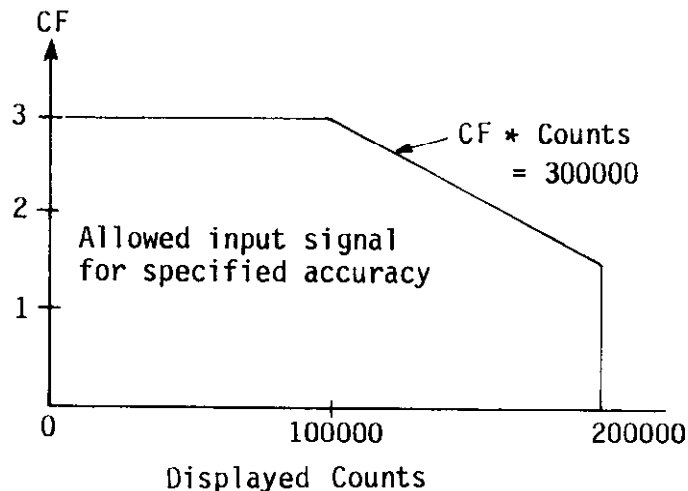

Figure 2-1. Crest Factor vs. Displayed Counts
- E. For specified accuracy (pulse widths $\geq 10\mu\text{s}$, peak voltage $\leq 1.5 \times$ full scale) Figure 2-1 shows the allowable input signal vs. crest factor. The figure illustrates that for a crest factor of three the displayed reading must be less than 100,000 counts (1V on the 2V range). So long as the maximum input is not exceeded no damage will result in crest factors exceeding that shown in Figure 2-1, but accuracy will slowly degrade (For $\text{CF} > 3$ but ≤ 10 typical accuracy is degraded by $(\text{CF}-3) \times 0.36\%$ and peak signal must be less than $5 \times$ full scale for that range).
- G. For specified accuracy (pulse widths $\geq 10\mu\text{s}$, peak voltage $\leq 1.5 \times$ full scale) Figure 2-1 shows the allowable input signal vs. crest factor. The figure illustrates that for a crest factor of three the displayed reading must be less than 100,000 counts (1V on the 2V range). So long as the maximum input is not exceeded no damage will result in crest factors exceeding that shown in Figure 2-1, but accuracy will slowly degrade (For CF > 3 but ≤ 10 typical accuracy is degraded by $(\text{CF}-3) \times 0.36\%$ and peak signal must be less than 5 x full scale for that range).